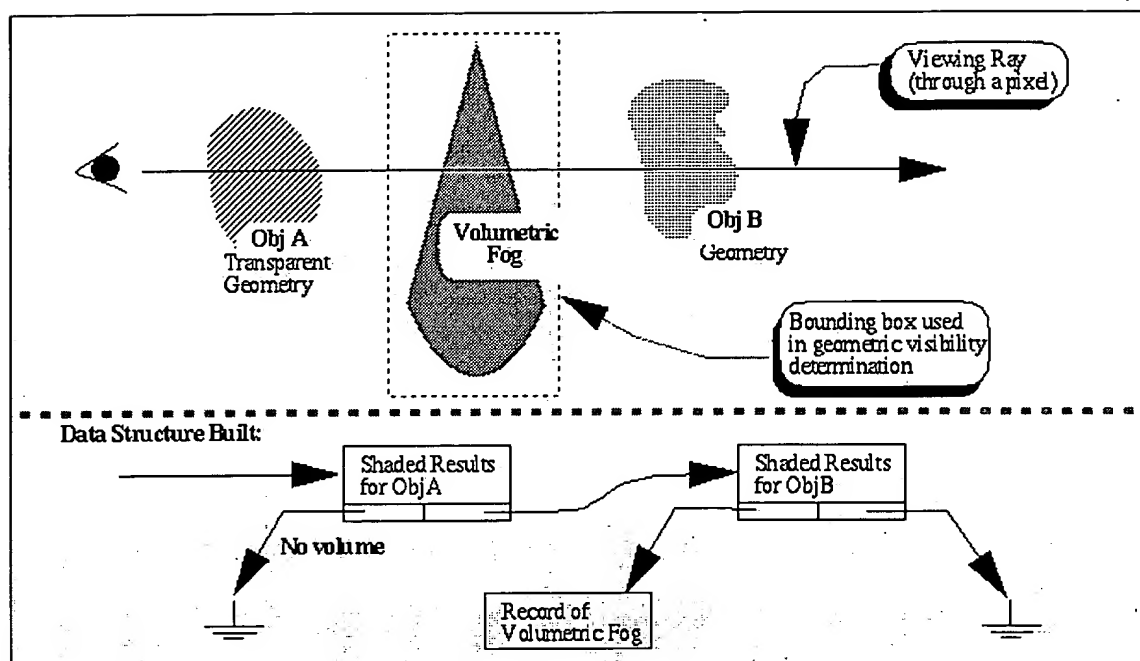

Figure 1: Volumetric Primitives.
- **Scan conversion for a tile.** Notice that until this point, the only computation we have performed on the objects is computing their bounding boxes. To avoid performing further computation for objects that are entirely occluded, we first sort the objects by their depth, then project each object into screen space in front to back order. Projection to screen space involves initializing an object's shading state, tessellating the object into triangles (when possible), and scan converting the triangles into corresponding screen masks (or fragments) [11, 6]. Since the computation is performed from the front to back, the process can stop as soon as the entire pixel is covered by opaque objects. In this way, completely occluded objects will never be tessellated and their shading state will never be initialized. Only one tessellation is performed for different instances of the same object, with the tessellated triangles shared among all the instances. As illustrated in Figure 1, for implicitly defined primitives (e.g. volumetric objects, or particle systems), the bounding boxes are used as placeholders during scan conversion. At the end of scan conversion, each pixel in the tile contains a list of potentially visible fragments.
- **Render a tile: computation for volumetric primitives.** Volumetric primitives do not participate in the screen mask visibility operations because they are typically implicitly defined, and thus can be difficult and inefficient to tessellate for scan conversion. Furthermore, the shading of volumetric primitives usually requires a visible interval in depth, whereas a screen mask is designed for computing projected surface coverage on the screen. As illustrated in Figure 1, placeholders of volumetric primitives (*Record of Volumetric Fog* in Figure 1) are inserted in the data structure. As in the cases of geometric primitives, placeholders of the same volumetric object are grouped together into *vectors*. For each vector, viewing rays are intersected with the volumetric primitive, and the visible intervals are shaded. In our system, particle systems are considered as a special case (*subclass*) of the volumetric primitive type.